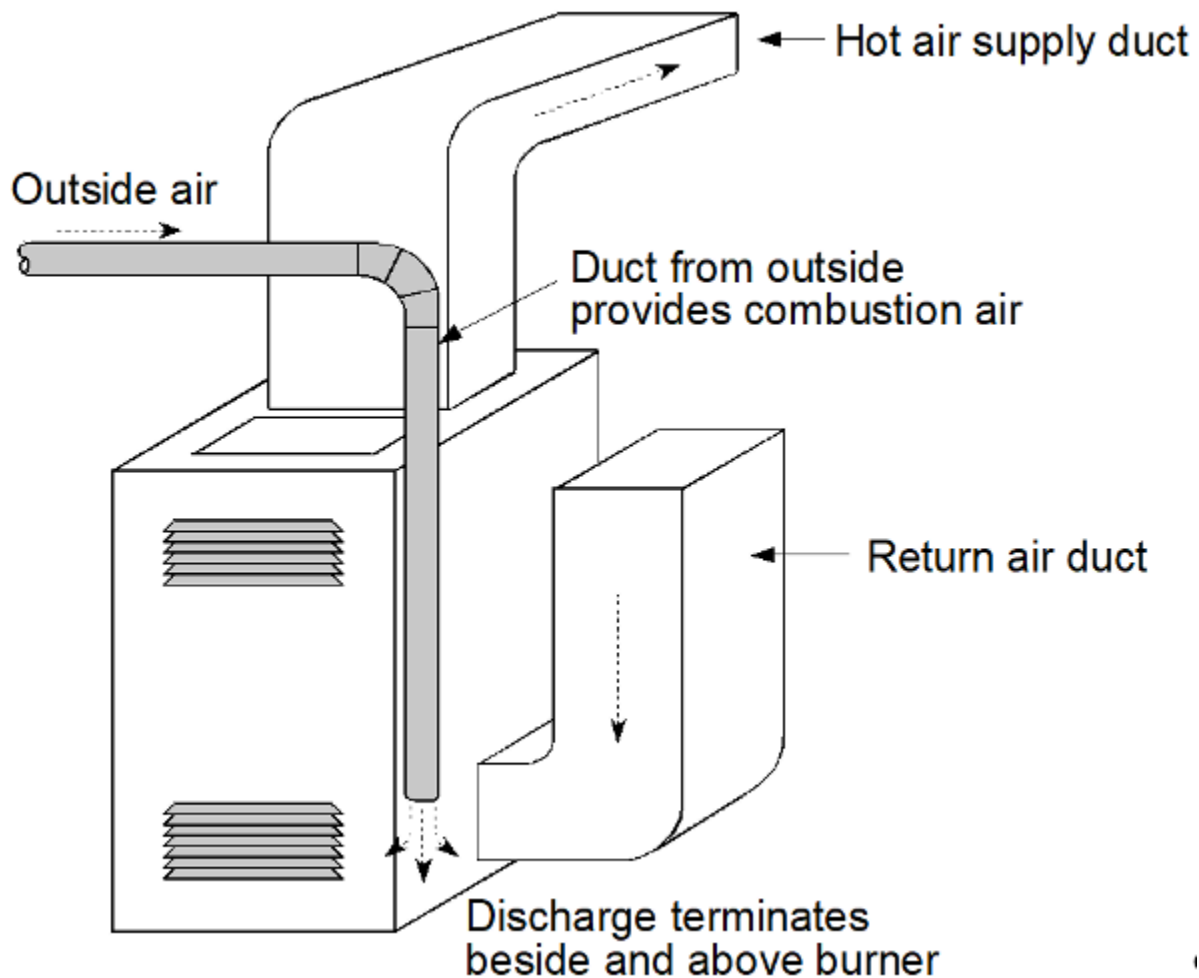

Figure 5. Ducted gas appliance air supply
If adequate outside air is not supplied to the room it will create a negative pressure in the room which will affect the safe operation of the appliances. Depressurization in a building with spillage-susceptible appliances must be limited to -0.02 inch w.c. (-5 Pa). The outside air is normally brought close to the gas appliance burners via a duct (Figure 5), but a hole in the wall may be used in some instances.
- Figure 5. “Ducted gas appliance air supply” – The source for this image is unknown. It is being used for non-commercial, educational purposes. To receive credit for this image, please reach out to the publisher.